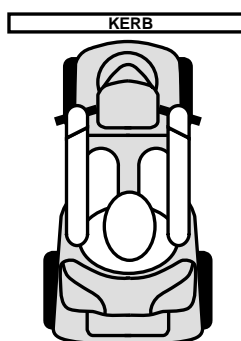

figure 4. correct Kerb approach
**WARNING! Be sure your scooter is traveling perpendicular to any kerb you may be required to ascend or descend. See figures 4 and 4A.**